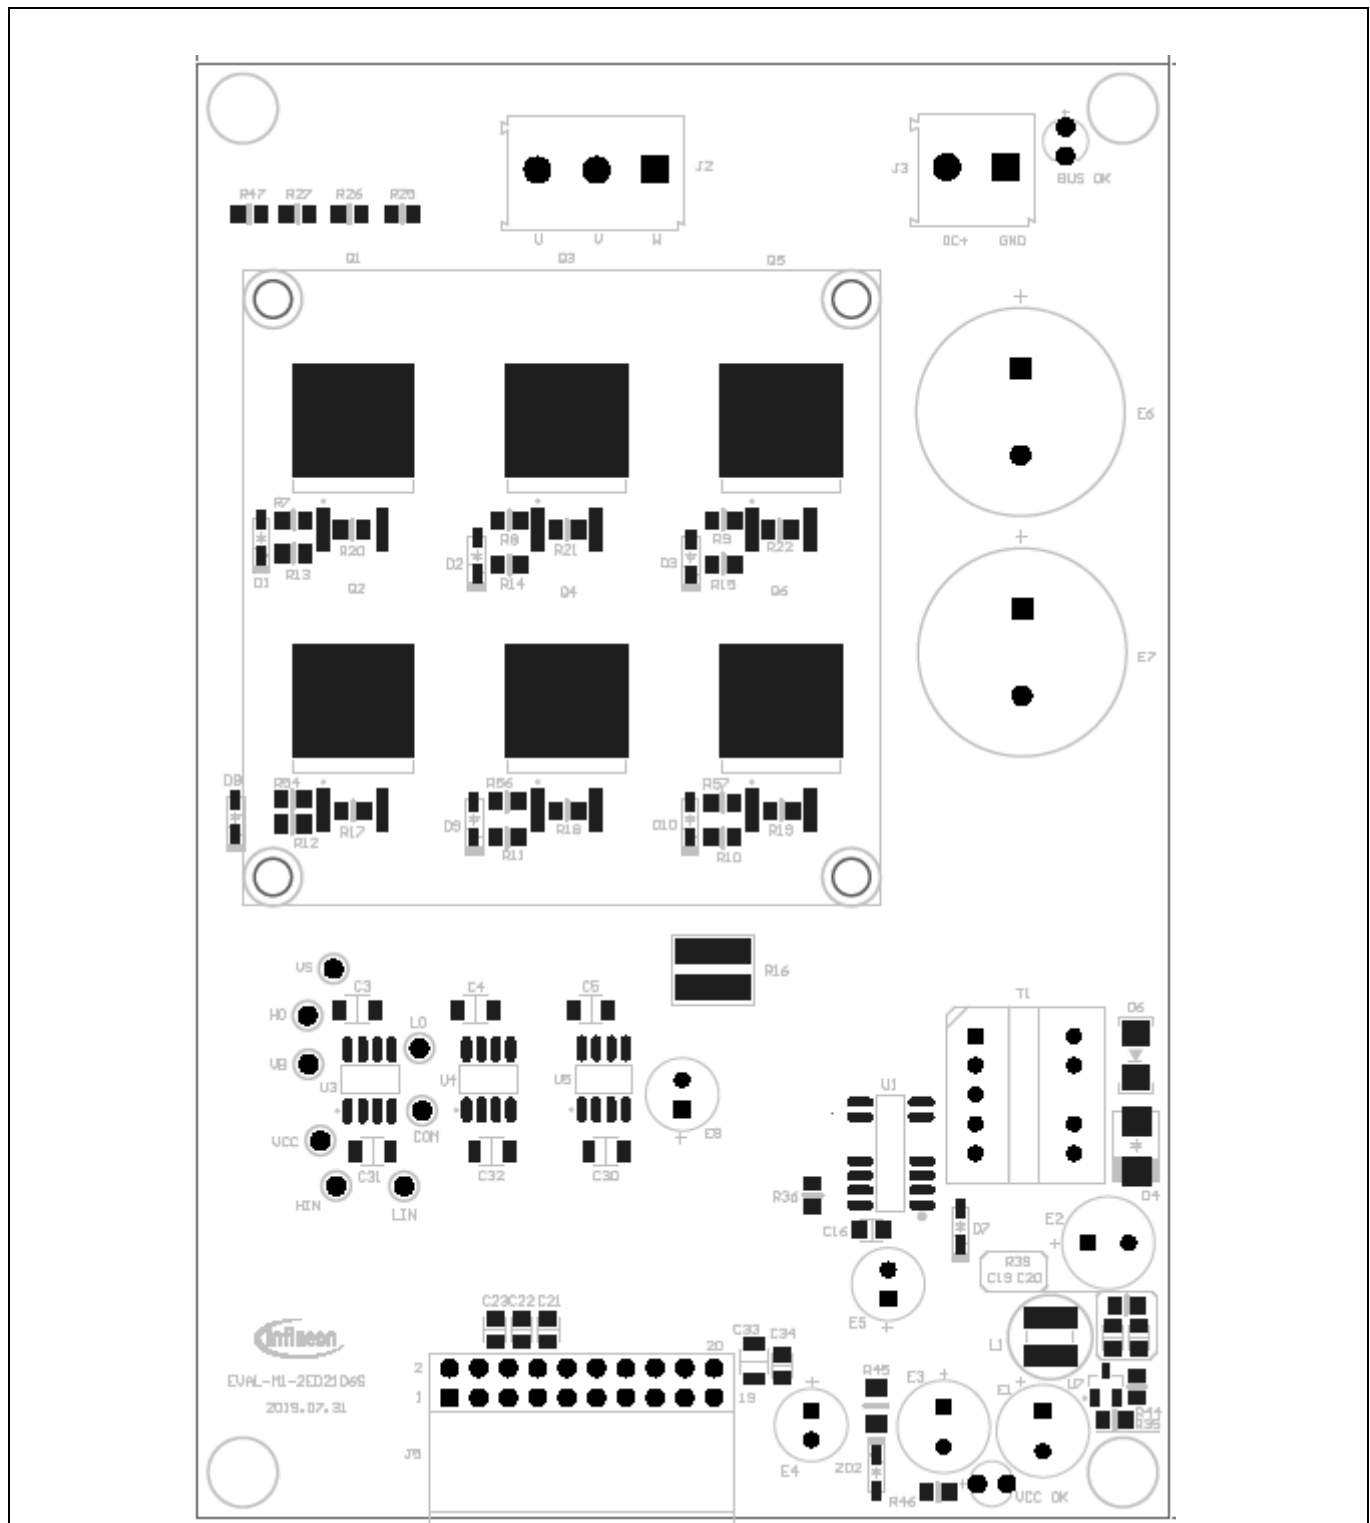
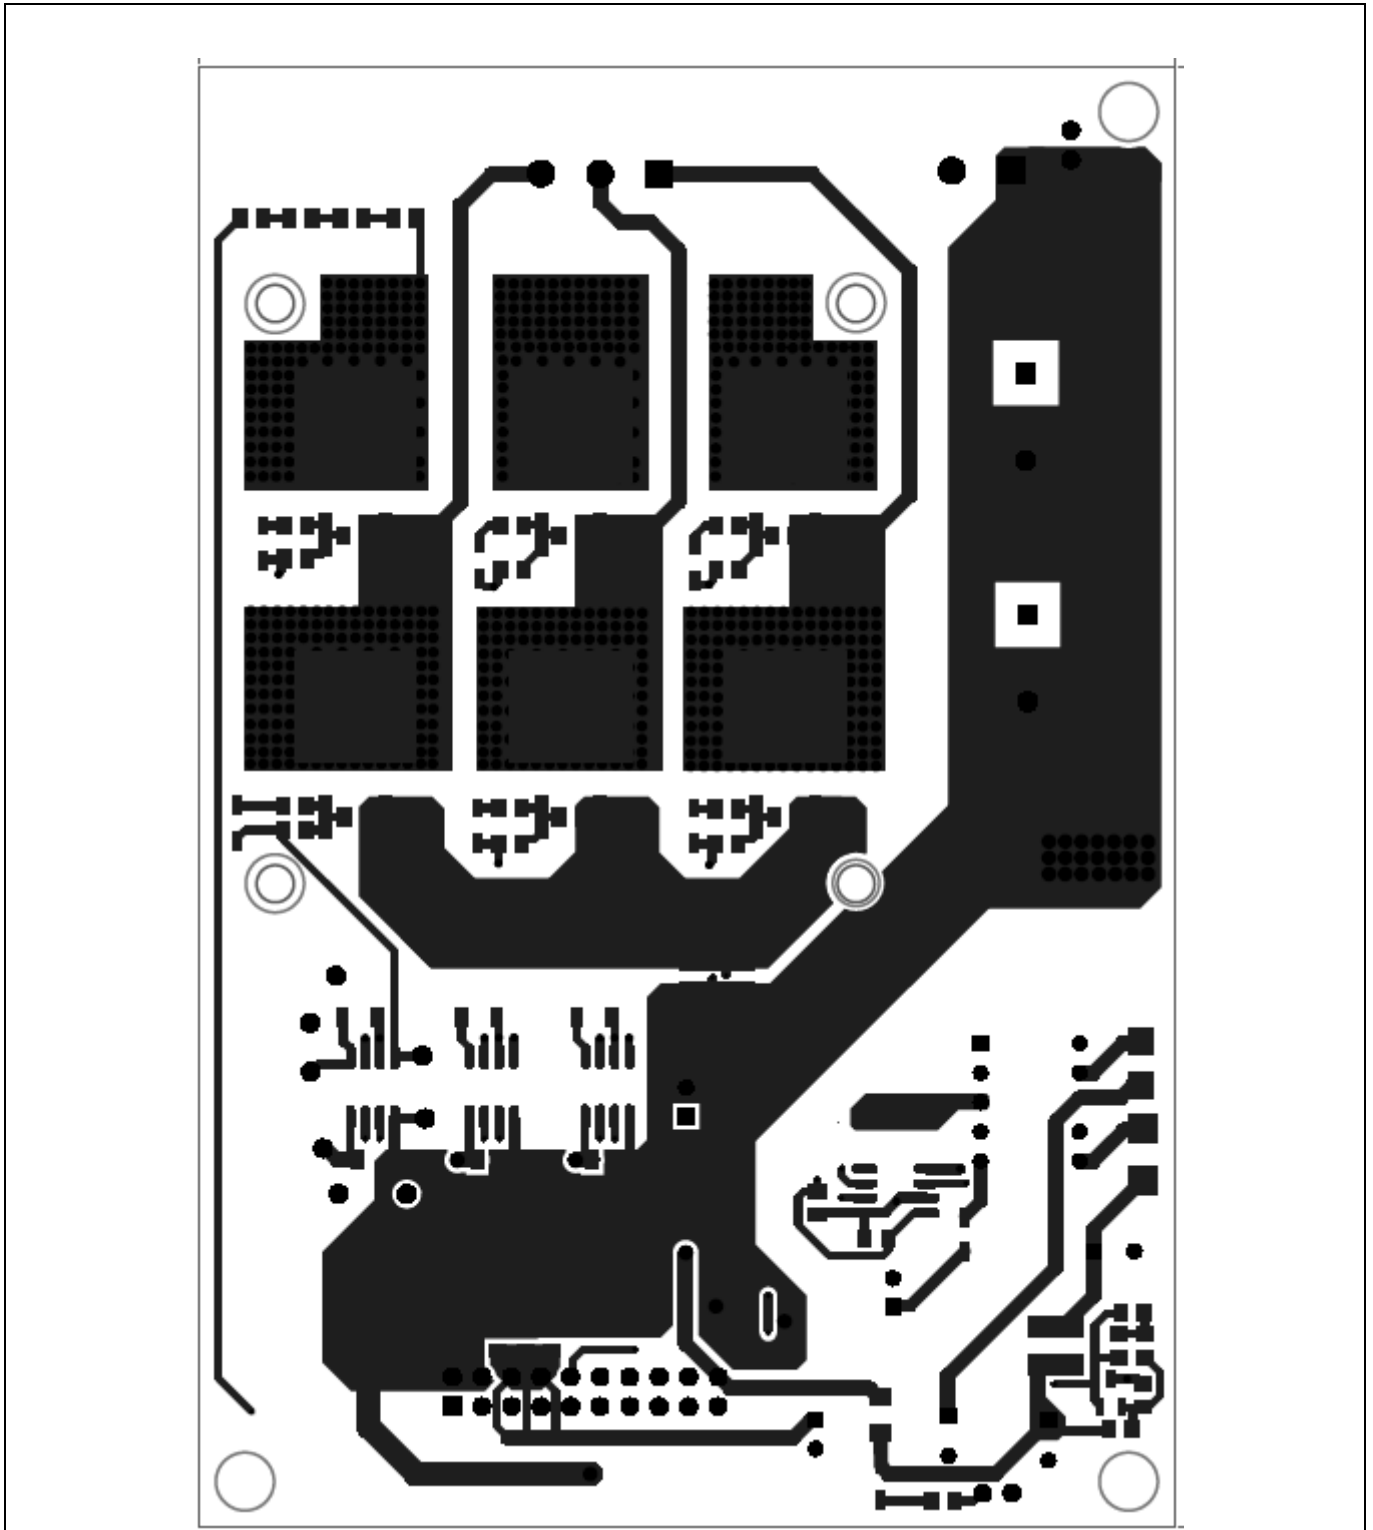
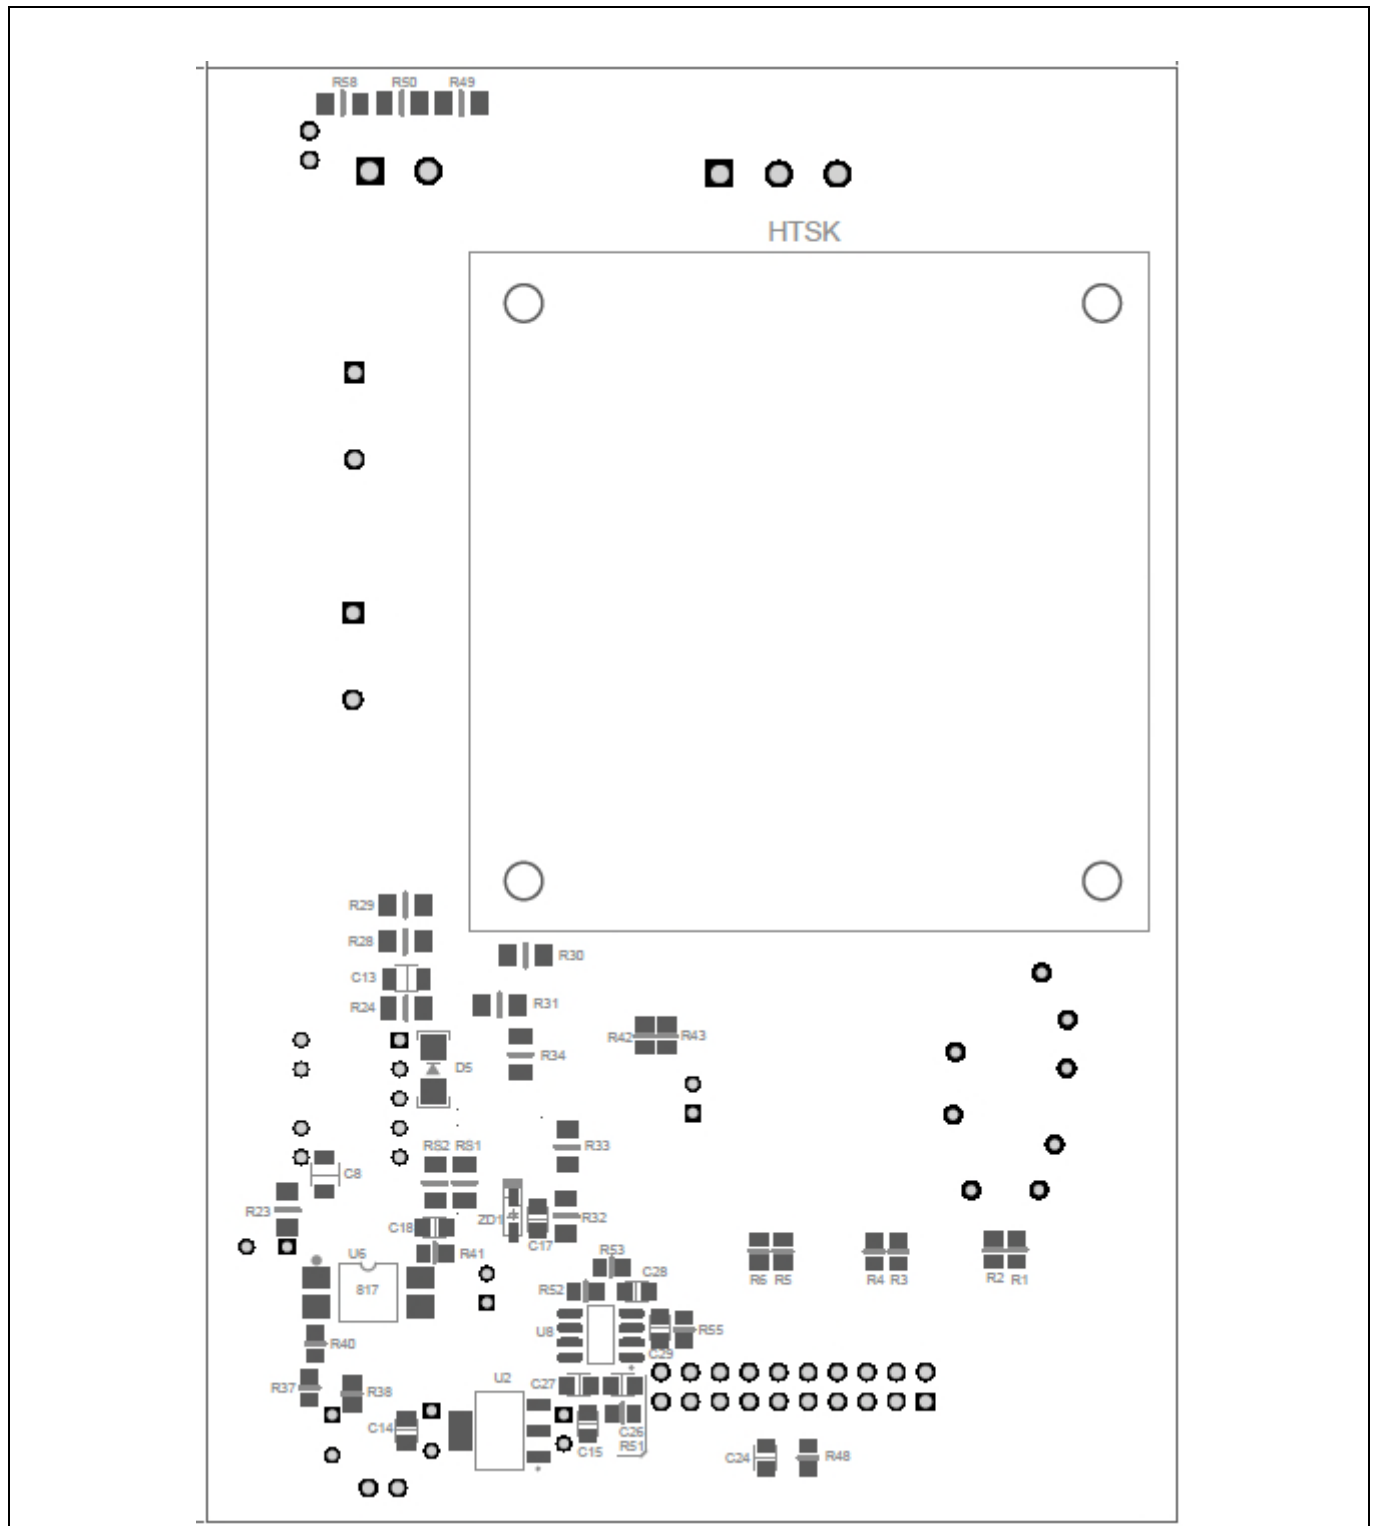
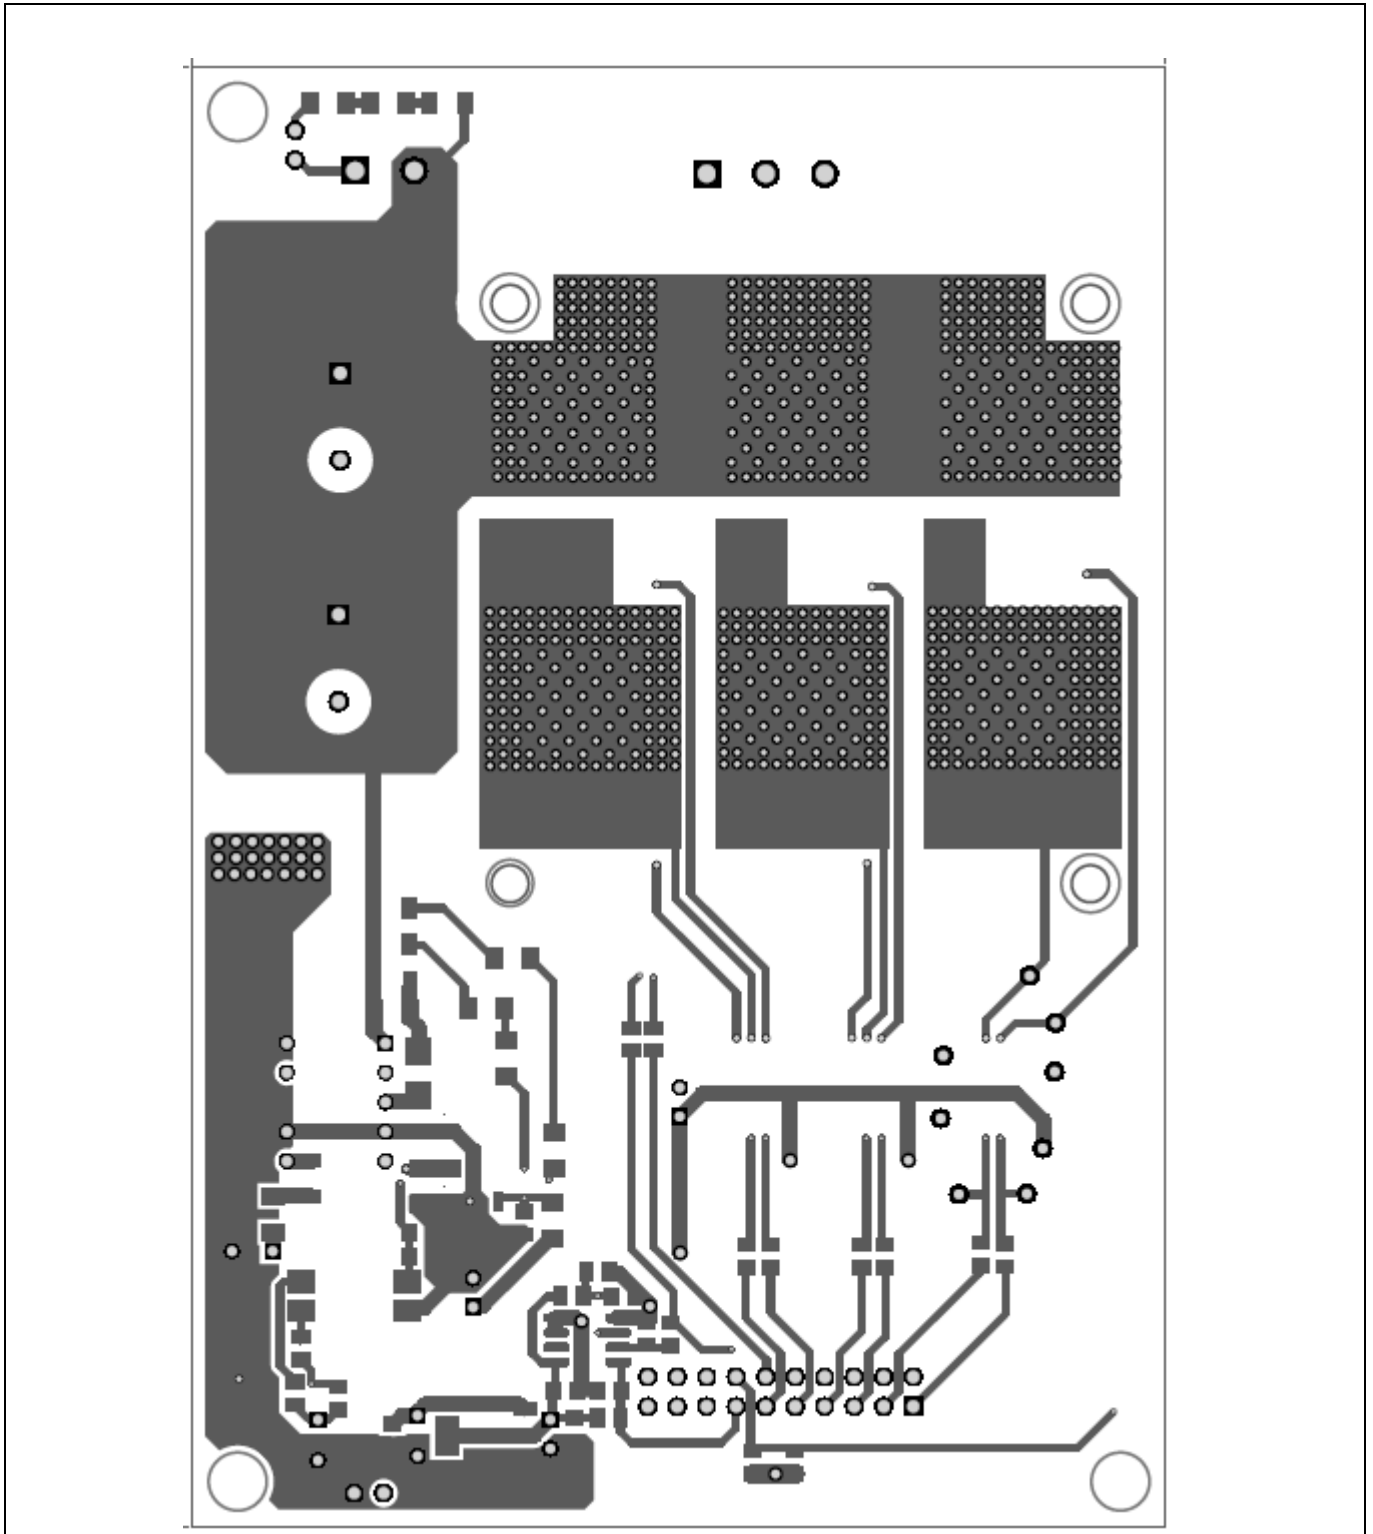

Figure 14 Top assembly drawing
Figure 15 Top layer routing
Figure 16 Bottom assembly drawing
Figure 17 Bottom layer routing
The layout details of the EVAL-M1-2ED2106S can be seen in Figure 14, Figure 15, Figure 16 and Figure 17, respectively.
- The power ground and controller ground should be individually copper-filled (in the production process) and then shorted at the return of the shunt resistor. In this way the LO-COM drive loop parasitic inductance and the HIN/LIN-COM input signal loop parasitic inductance are both as small as possible (see Figure 15 and Figure 17).